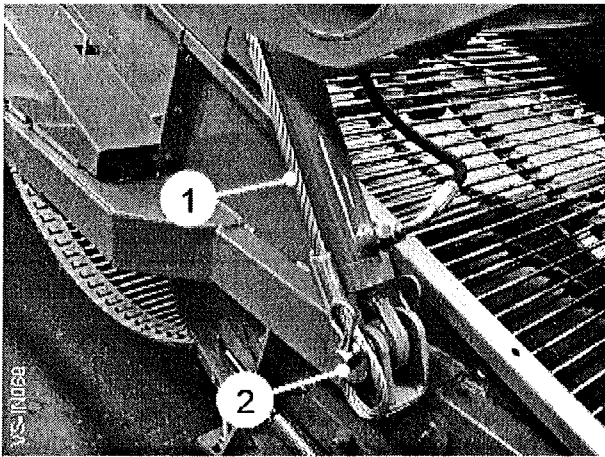

Fig 4
The digger assembly, which includes the diablo rollers, disc coulters, shares and digger web, is retained in the raised position by the transport lock cables (item 1, fig 4) fitted on both sides of the machine. Before attempting to operate the digger assembly, the transport lock cables will need to be released by removing the retaining clips and washers (item 2, fig 4).